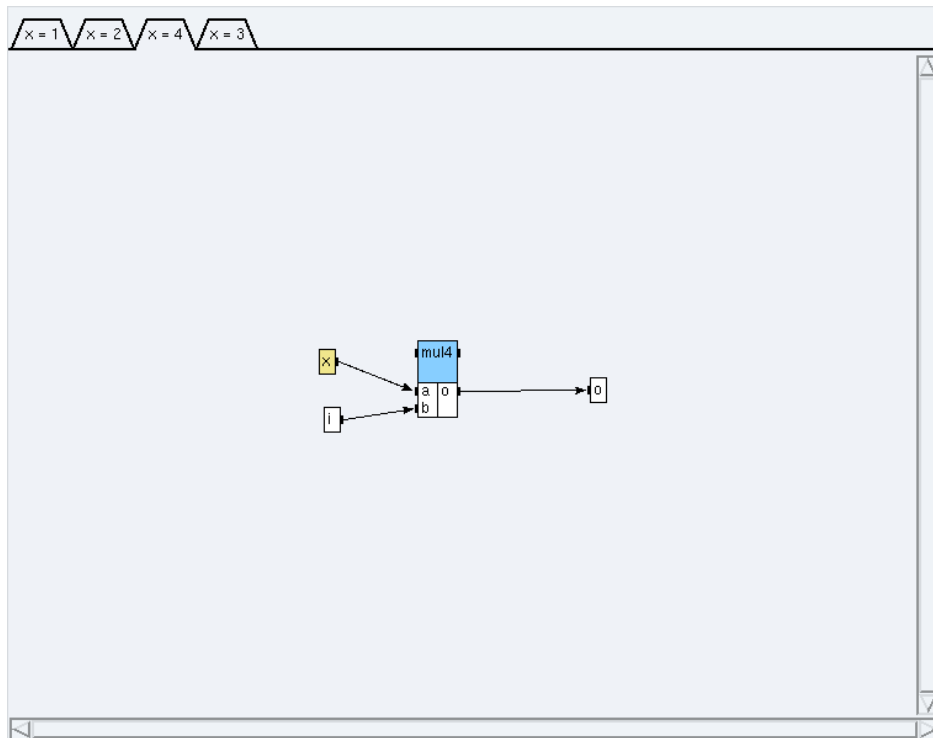

Figure 5.5: Condition $x=4$
- * click on the condition **`x=4`** (*cf.* figure 5.5) and create a reference `mul4<1>` to the definition `int/Arit_mul`;